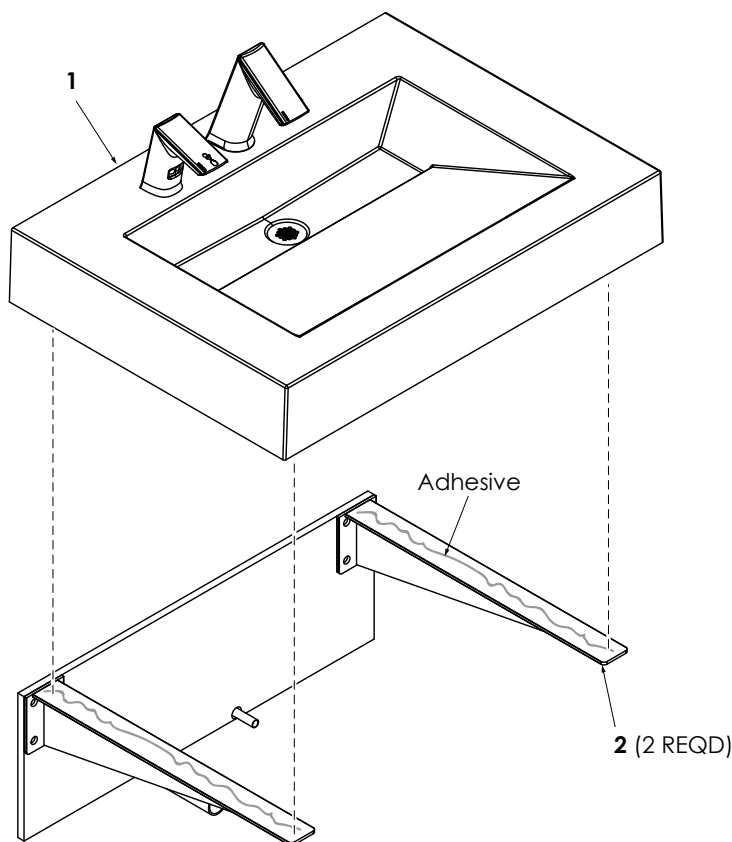

Figure 6
6. Install Deck (1, Figure 6) onto Side Brackets (2).